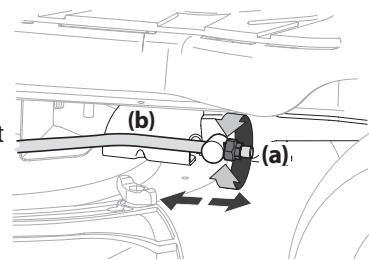

Figure 17
- Locate the flange lock nut (a) on the front end of the PTO lift rod (b). See Figure 17.